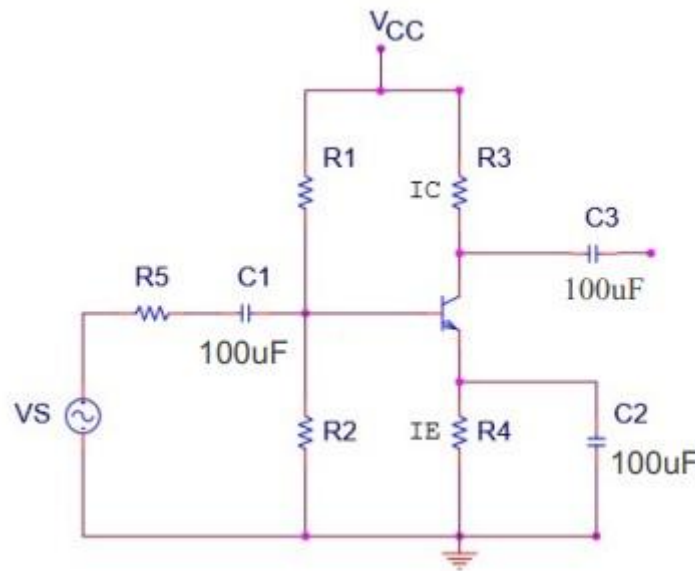

Figure 2
- Figure 2 shows the experimental setup for CE BJT amplifier configuration with voltage divider bias.
- The transistor in circuit of Figure 2 has the parameters, $V_{BE} = 0.7V$ and $\beta = 150$.